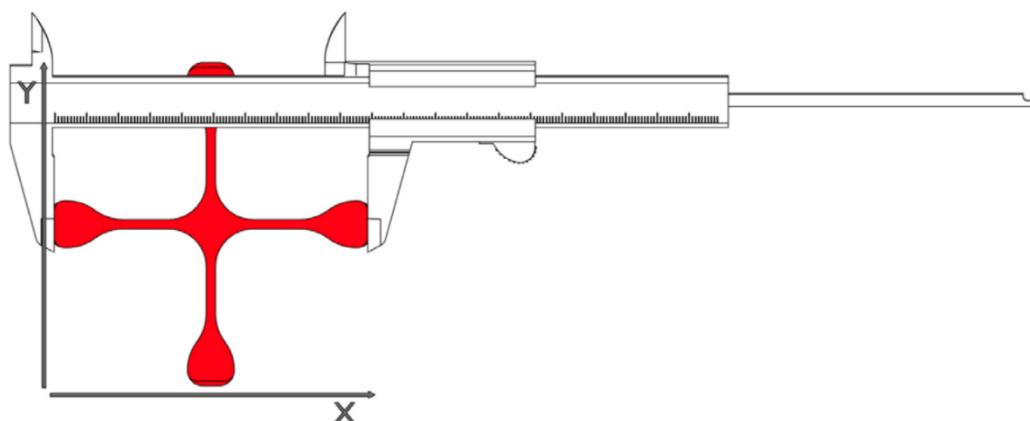

Fig. 59 Measurement visualization
- the measuring point should be in the middle of the model height above the step, both points at the height of the same layer (fig. 59),